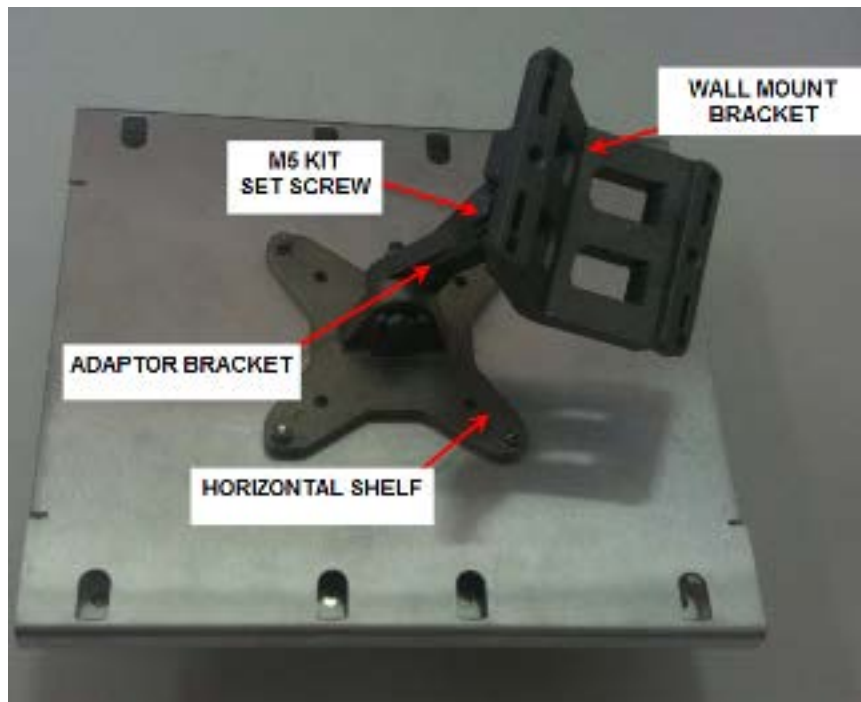

Figure 24: Wall Mount Bracket Assembly
8. Secure the wall mount bracket with Flat Washer (M5), Spring Washer (M5), and Set Screw (M5) as shown in Figure 24.